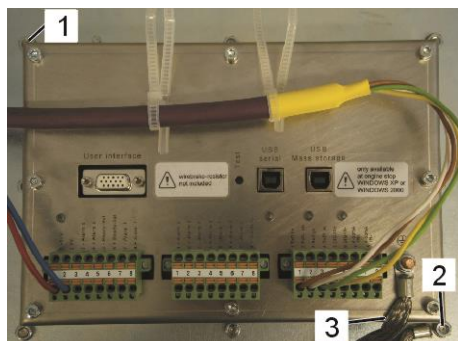

Fig. 87: Indication unit in control room
1. Fix the Indication unit on the control panel in a suitable position with screws on its back (Fig87/1).
2. Remove possible colour on the back of the control panel to guarantee a metallic bright surface for assembling the GND strap (Fig.87/2).
3. Screw the GND strap (Fig87/3) onto the back of the control panel.